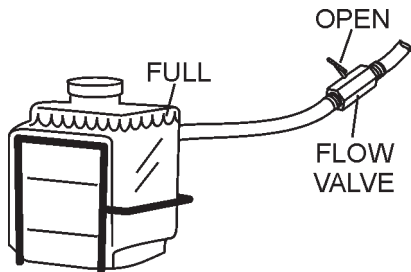

Figure 36. Piston Oiler Valve (Open)
2. Open the **piston oiler valve** (Figure 36) slightly. Verify that oil is flowing through the lines, but not excessively. **DO NOT** start pump for at least 5 minutes.